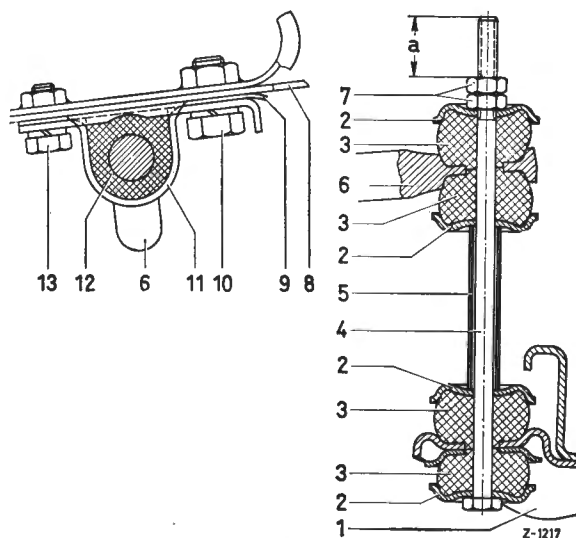

Fig. 32-6/2
2. Unscrew the hexagon screws (8) and (9) for fastening the rubber mountings (10) for the torsion bar (12) to the chassis base panel at the left and at the right and remove the torsion bar together with the brackets, the rubber mountings, and the locking plates (Fig. 32-6/1).
3. Check the two rubber mountings (12), the rubber buffers (3) and the hexagon screws (4) together with the cup washers (2) and the spacer tubes (5) (Fig. 32-6/2).
5. Fasten the torsion bar to the lower control arm, taking care to ensure that the rubber buffers and the cup washers are properly arranged. Screw on the hexagon nuts (7) in such a way that the prescribed initial stress of the rubber buffers is obtained. For this purpose measure the distance "a" from the screw end to the upper hexagon nut. (For dimensions see Table in Job No. 32-0). Then lock the two hexagon nuts (Fig. 32-6/2).